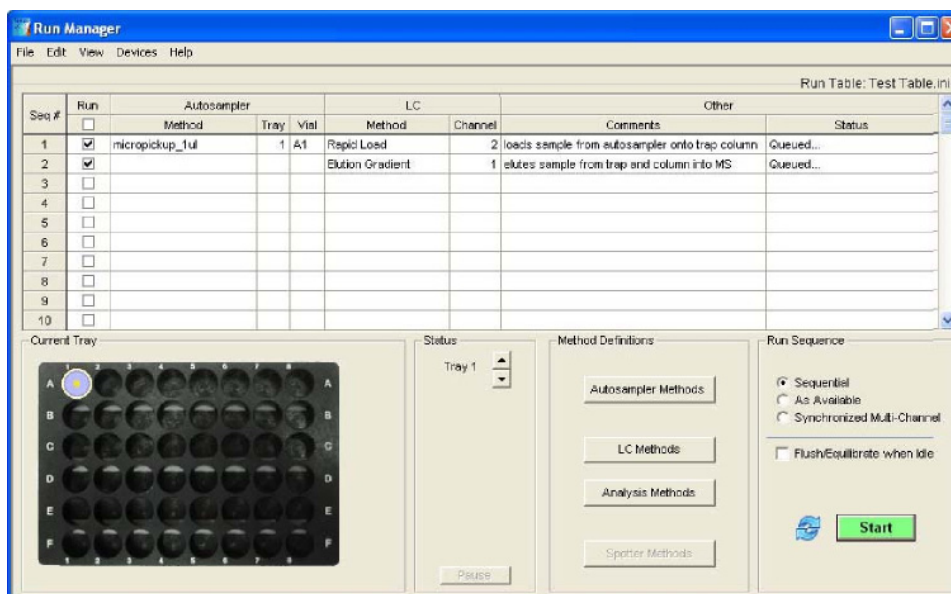

Figure 5-6. Run Manager Window
- step 2* Click **Run Manager** in the **Acquisition Window** to open the **Run Manager** display (Figure 5-6).
- step 4* If you do not see the columns shown in Figure 5-6, choose **Edit > Choose Column...** from the menu and select the appropriate columns for display.